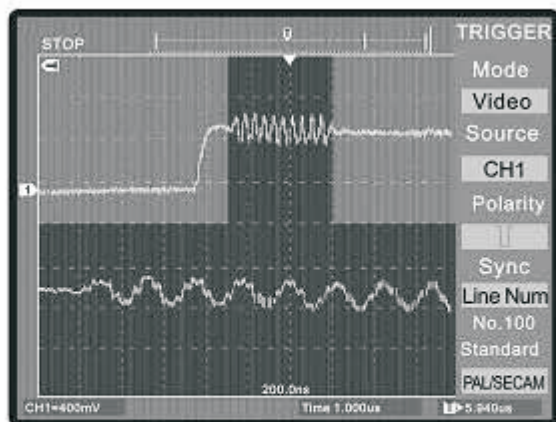

Figure 3-6 Demonstrating line100 color synchronization signal by delaying scan or video trigger mode
5. Adjust the vertical POSITION, VOLTS/DIV, SEC/DIV to see a complete waveform on the screen. See Figure 3-6 and Figure 3-7.